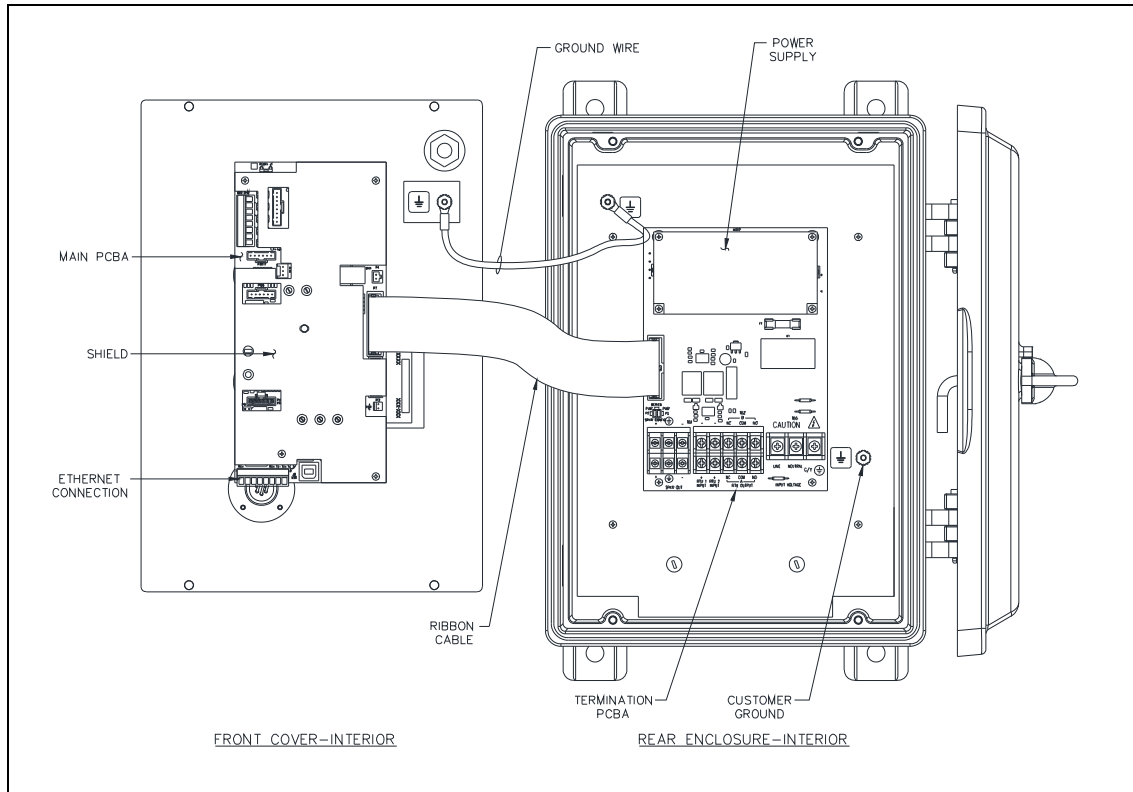

Figure 3. Class I Div. 2 SP2 Station—Interior View
2. Secure it to the ground terminal located in the lower right corner at the back of the rear enclosure (see Figure 3).